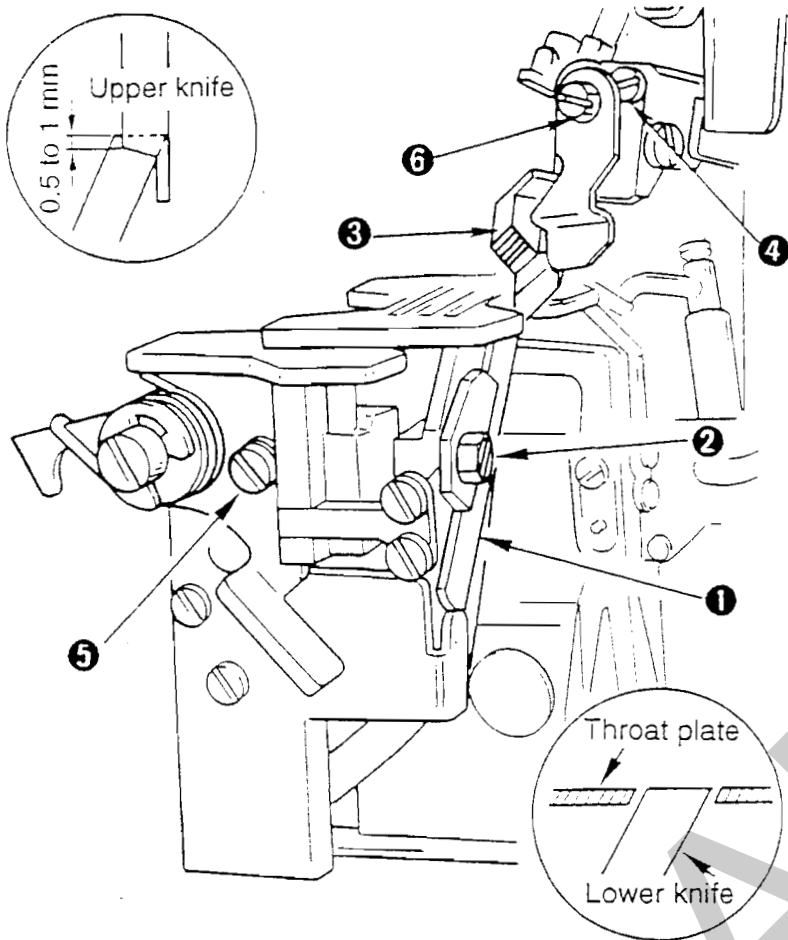

FIGURE 17
Loosen the set screw (2), indicated in Figure 17, and adjust lower knife (1) height to be flush with, or slightly below the top of the throat plate. Tighten screw (2).
b) Upper Knife Height (Figure 17)
2) Overedge Width Adjustment (Figure 17)